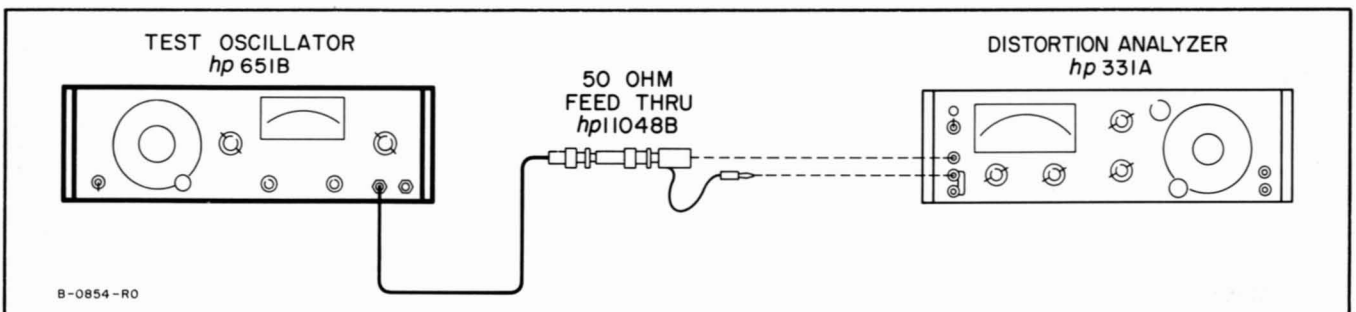

Figure 5-4. Distortion Check
- a. Connect a distortion analyzer to the 651B as shown in Figure 5-4.
- c. Connect 651B to distortion analyzer as shown in Figure 5-4.